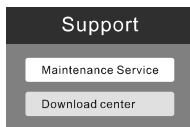

Figure 2
www.benetechco.net in the browser, press enter and enter the page to find the menu "Support > Download center",as shown in Figure 2. Click into the page to find the software installation package "setup_Anemometer. Zip",as shown in figure 3.Click the download button to directly extract the "zip package" after downloading. Double-click "setup_Anemometer.exe" icon to enter into program installation interface; choose between"Chinese or English" according to software installation prompt; click "OK" to the next step, as shown in Figure 4 below.
- Line chart: Figure 1 is wind speed / volume chart; Figure 2 is temperature and humidity chart; print button; measured data list.